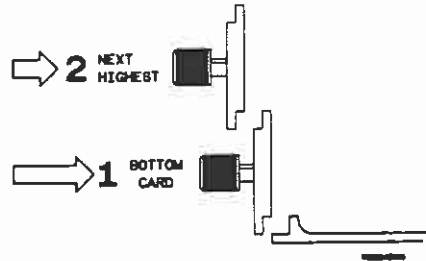

Figure A-11. Endplate Overhang
- p. Repeat for all cards and filler panels in a bottom to top order. See figure A-11.